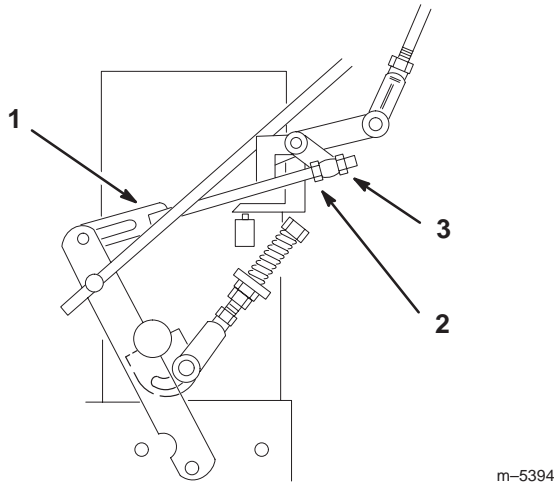

Figure 51
7. Loosen the front nut on left hydro control linkage as shown in figure 51.
8. Turn the left rear adjusting nut counter-clockwise until wheel rotates forward (Fig. 51).
9. Turn the rear adjusting nut clockwise 1/4 of a turn at a time. Then move the speed control lever forward and back to neutral. Repeat this until left wheel stops rotating forward (Fig. 51).